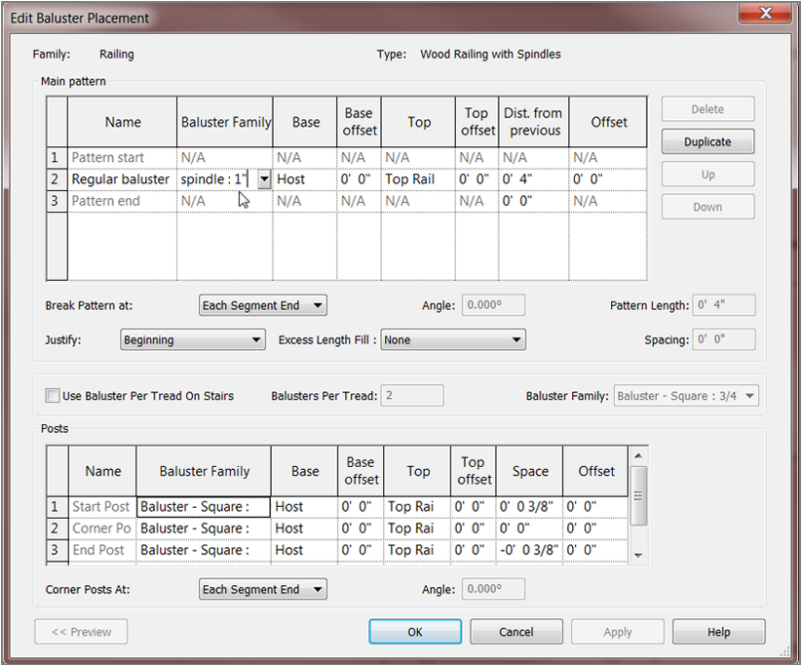

FIGURE 10.58: Adding the spindle to the Main Pattern area
20. In the Main Pattern area, change Baluster Family to Spindle: 1" (25mm) (see Figure 10.58).